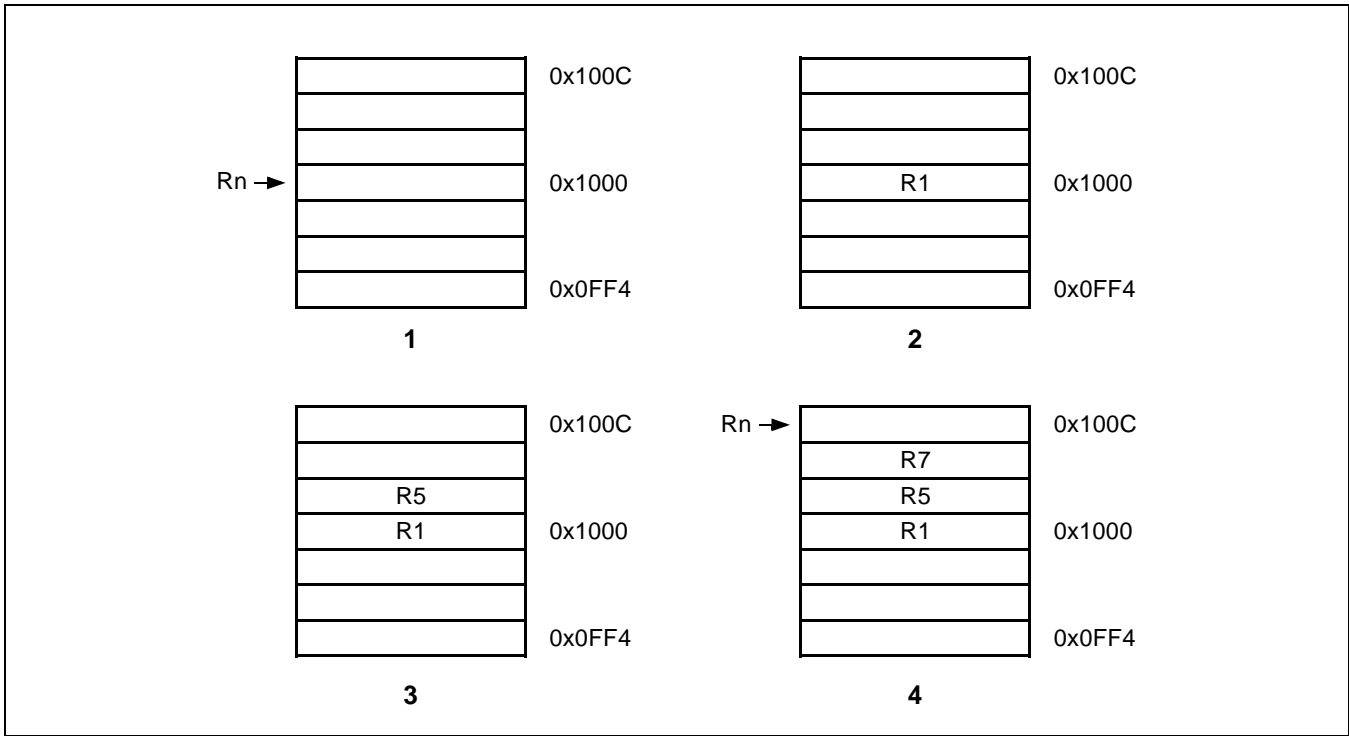

Figure 3-19. Post-Increment Addressing
The transfer addresses are determined by the contents of the base register (Rn), the pre/post bit (P) and the up/down bit (U). The registers are transferred in the order lowest to highest, so R15 (if in the list) will always be transferred last. The lowest register also gets transferred to/from the lowest memory address. By way of illustration, consider the transfer of R1, R5 and R7 in the case where Rn=0x1000 and write back of the modified base is required (W=1). Figure 3.19–22 show the sequence of register transfers, the addresses used, and the value of Rn after the instruction has completed.